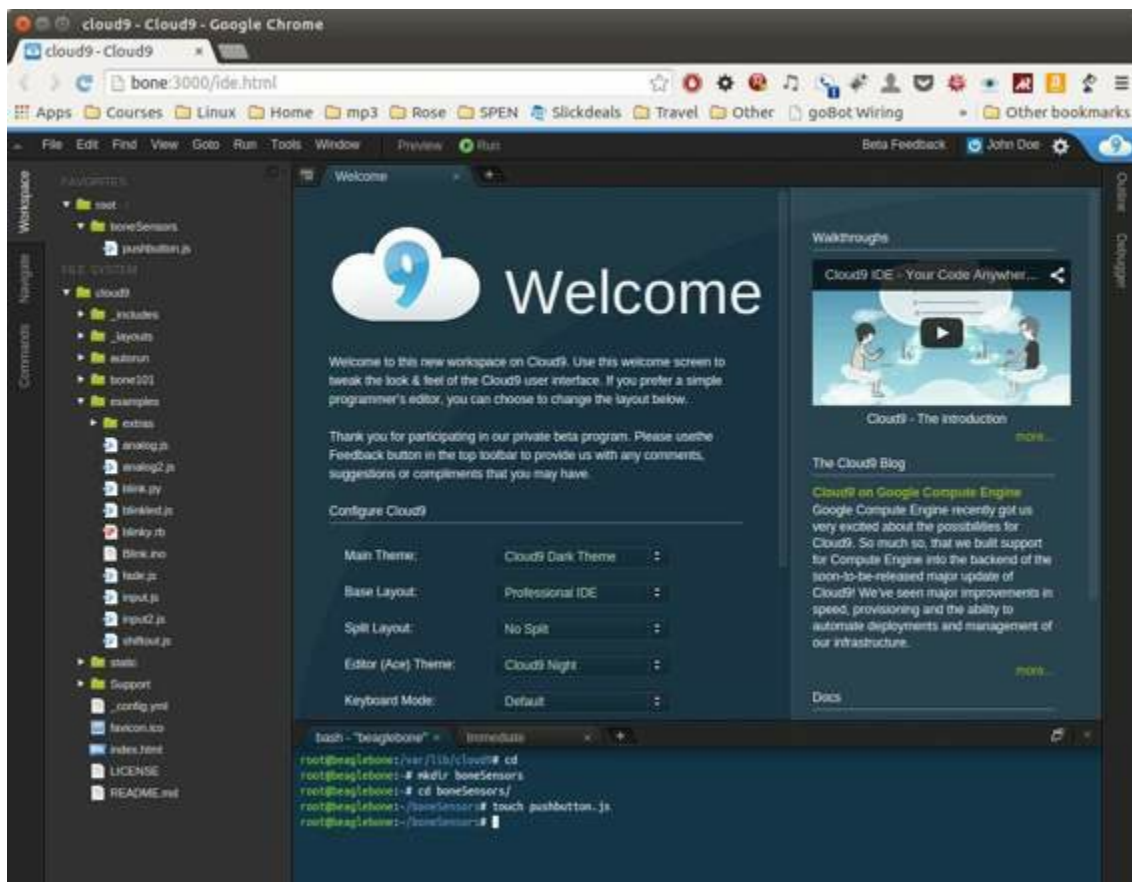

Figure 2-4. Entering commands in the Cloud9 bash tab
3. In the `bash` tab (as shown in Figure 2-4), run the following commands: